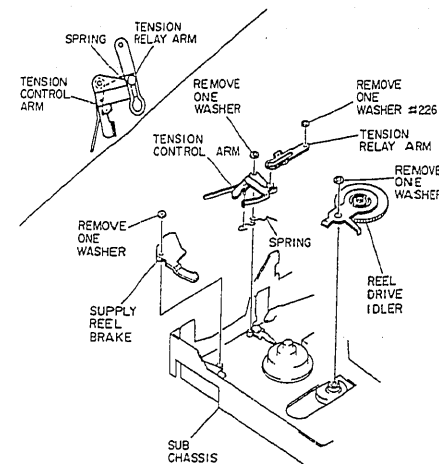

Fig. 2-37
- 1) Remove one (1) washer and pull out the reel drive idler from the main chassis. (See Fig. 2-37)
(2) Supply Reel Brake, Tension Relay Arm, Tension Control Arm
- 1) Remove one (1) washer and pull out the supply reel brake from the sub chassis. (See Fig. 2-37)
- 2) Remove one (1) washer holding the tension relay arm
- 3) Remove one (1) washer holding the tension control arm.